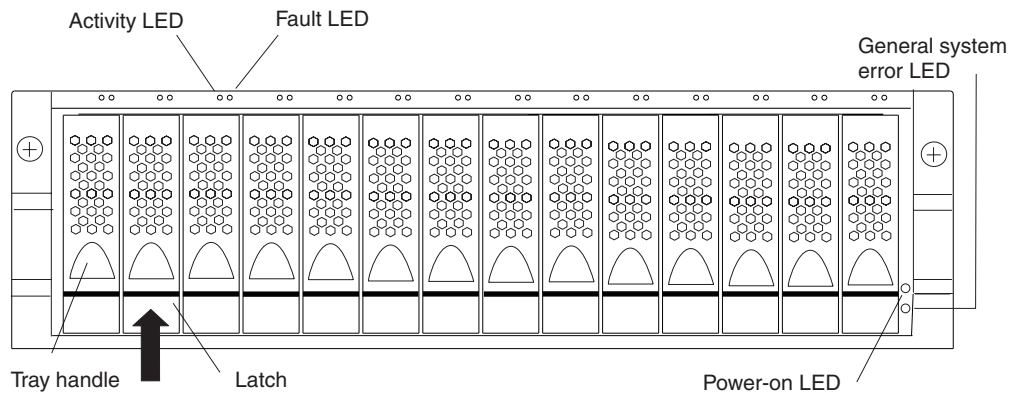

Figure 38. Hot-swap hard disk drive LEDs
2. Check for Fault LEDs shown in Figure 38. If any amber LEDs are lit, see Chapter 4, “Solving problems,” on page 61.
- a. Release the latch on the drive CRU by pinching together the blue line on the tray latch and the finger hole on the tray handle, as shown by the arrow in Figure 38.